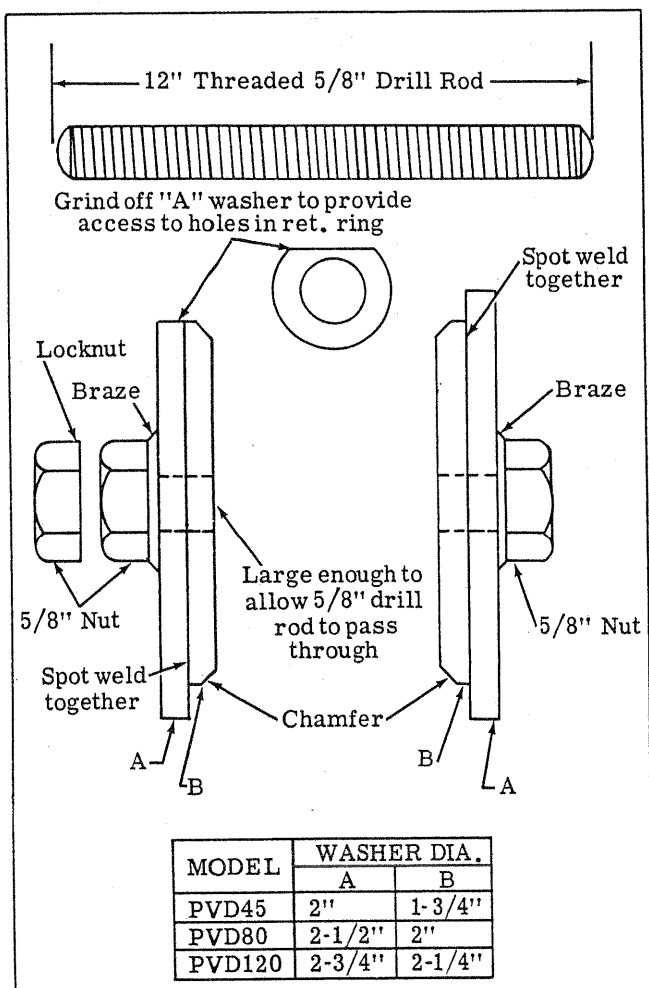

Figure 7. Cylinder Block Spring Decompression Tool
6. Cylinder block disassembly tool. See Figure 7.